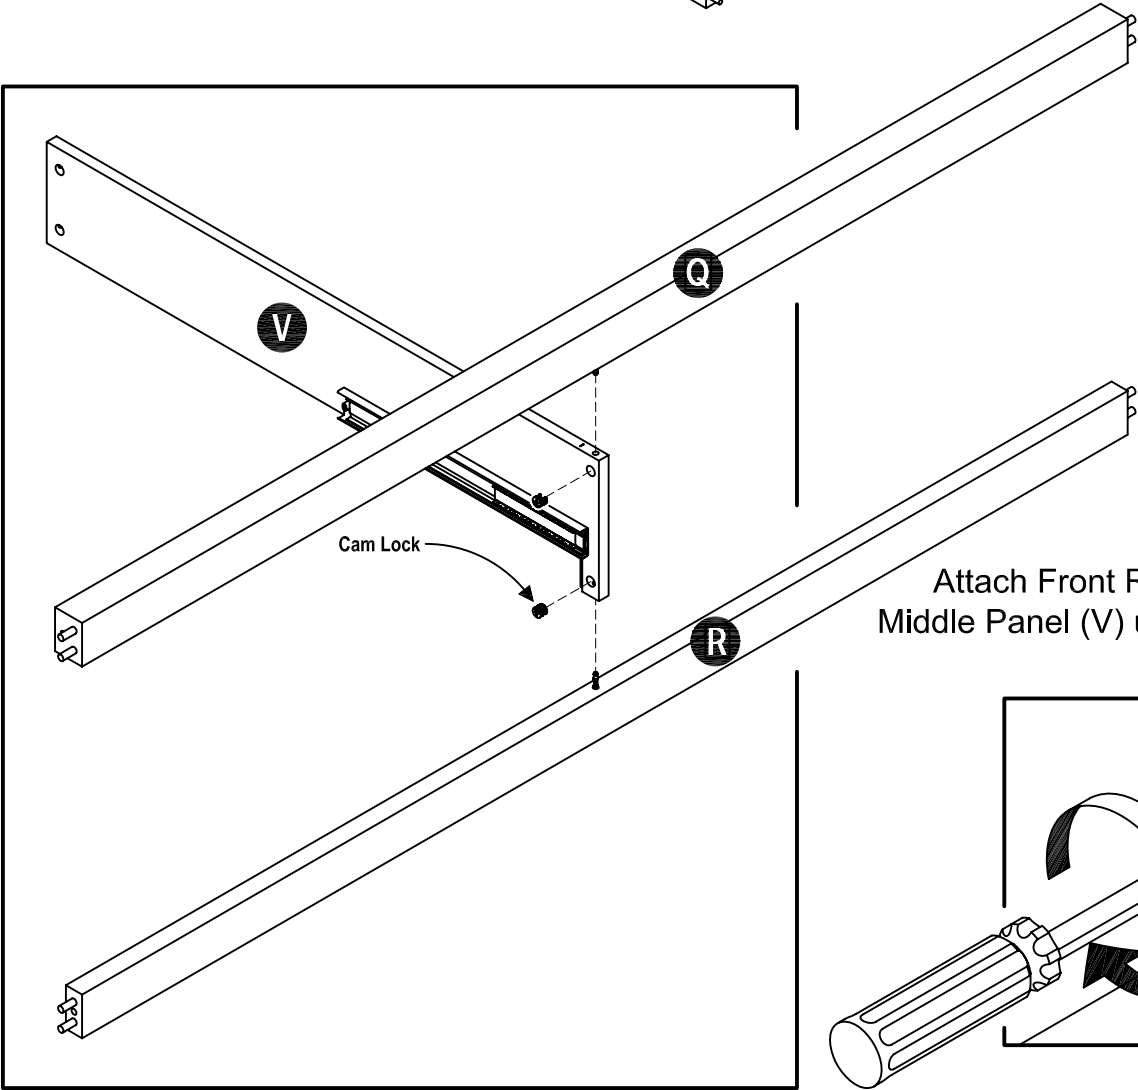

Figure 5
Attach Front Rail (Q) and (R) to Middle Panel (V) using Cam Locks. (see Figure 5)